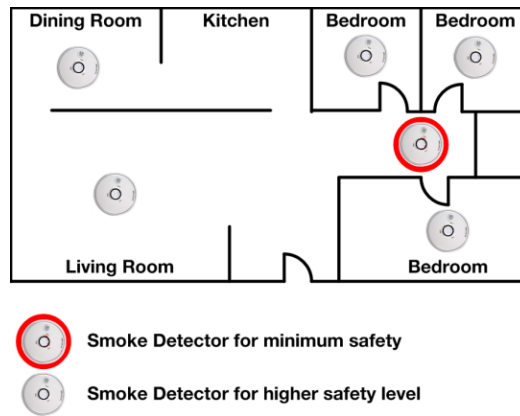
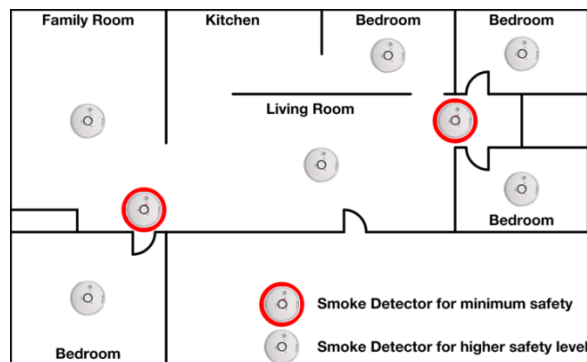

Figure 127: Smoke Detectors in Single Bedroom Area
Figure 128: Smoke Detectors in Multiple Bedroom Areas
- ◆ Install the Smoke Detector in the hallway, close but outside every separated bedroom area, as shown in Figure 127 below. Two alarms are required in homes with two bedroom areas, as shown in Figure 128 below.